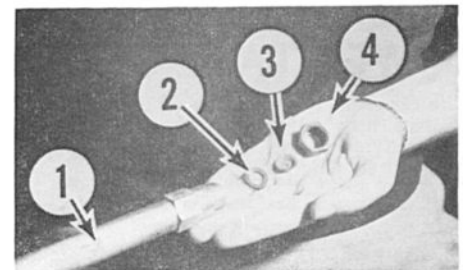

Figure 8
**USING THE SPRAY GUN.** The large Handle on the Gun controls the shape of the spray pattern, either a cone-shaped or a jet-shaped spray. Adjust to suit your job requirement. See Figure 8 for parts of the Gun.